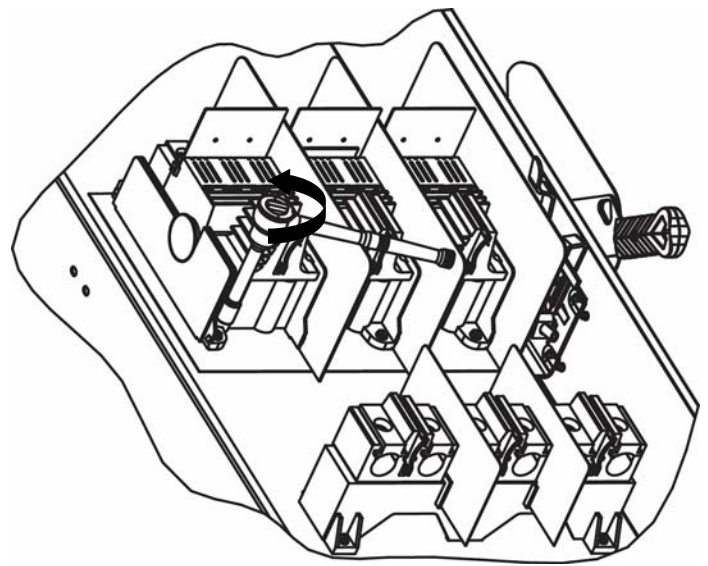

Fig. 2
2. Remove the Line Base Mounting Screws as shown in Fig. 2. Keep hardware for re-installation.